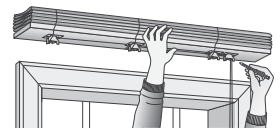

figure 3
1. Position the shade where you want it to hang on the molding or on the wall above the window. Make sure it is centered over the window. Using a pencil, mark the wall along the bottom of the headrail where you will install the brackets, 2" in from either side and every 12" to 18" in between, making sure brackets will not interfere with operation (figure 3). Set the shade aside.